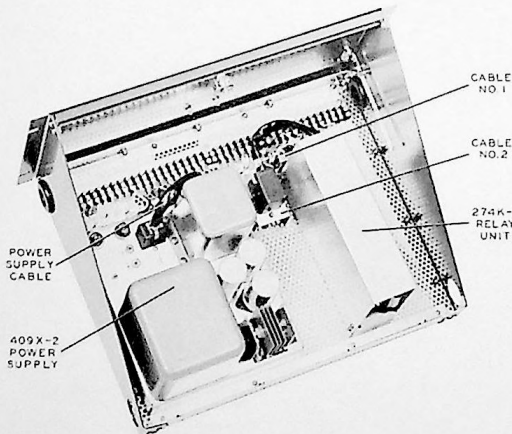

Figure 2-9A. 499G-1 Rack Mounting Shelf, Typical Equipment Arrangements
- c. Place the 409X-2 Power Supply units in the 499G-1 Rack Mounting Shelf. Typical arrangements are shown in figures 2-9A and 2-9B. Power circuit wiring to the